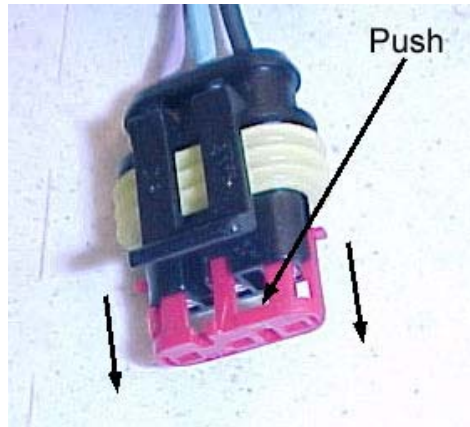

Figure 2
1. Remove the red locking device from the front of the connector with a small pick (Figure 2).